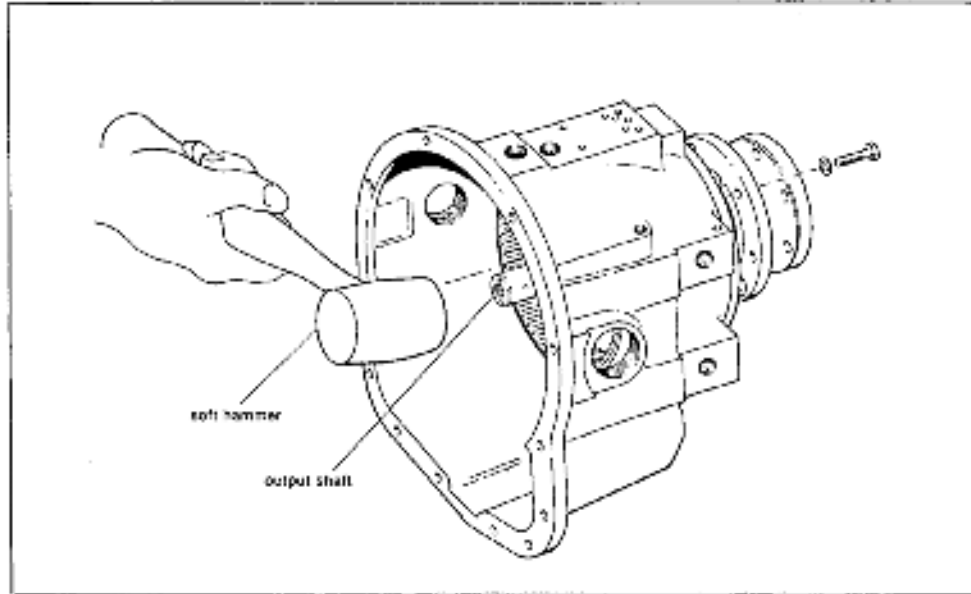

Figure 25. Removal of output shaft from housing.
1. Remove hex head capscrews (6) and lockwashers from bearing retainer. It is normally not necessary to remove rear cover.
2. From engine end of housing, (See fig. 25), tap output shaft with 'soft' hammer out of housing (bearing, bearing retainer oil seal, etc. Will come with shaft). Discard bearing retainer gasket.